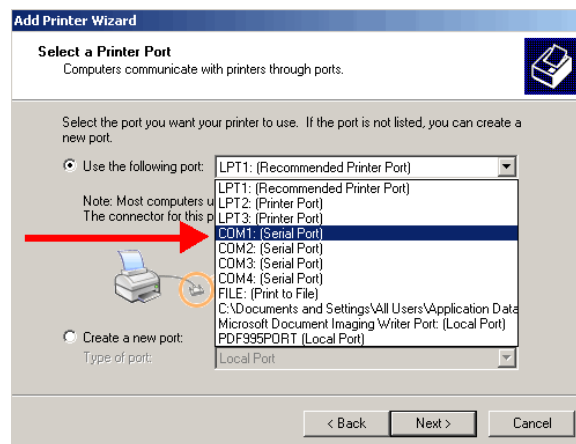

Figure 13
17. Direct the printer to the port where it is installed. (Figure 13)